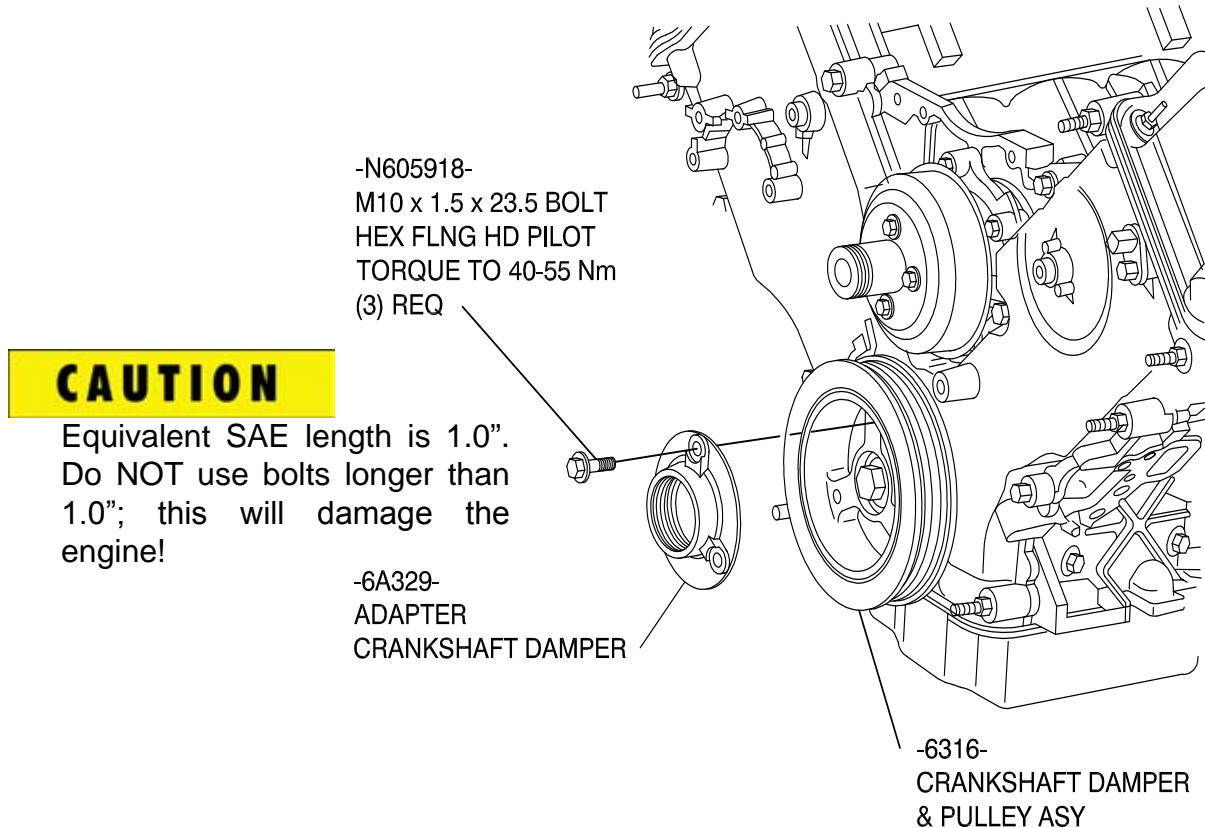

Figure 35. Install Adapter Crankshaft Damper
1. Install -6A329-adapter -crankshaft damper to -6316-damper -crankshaft with 3 N605918 bolts torque to 40-55 Nm (30-40 lb-ft). See Figure 35.